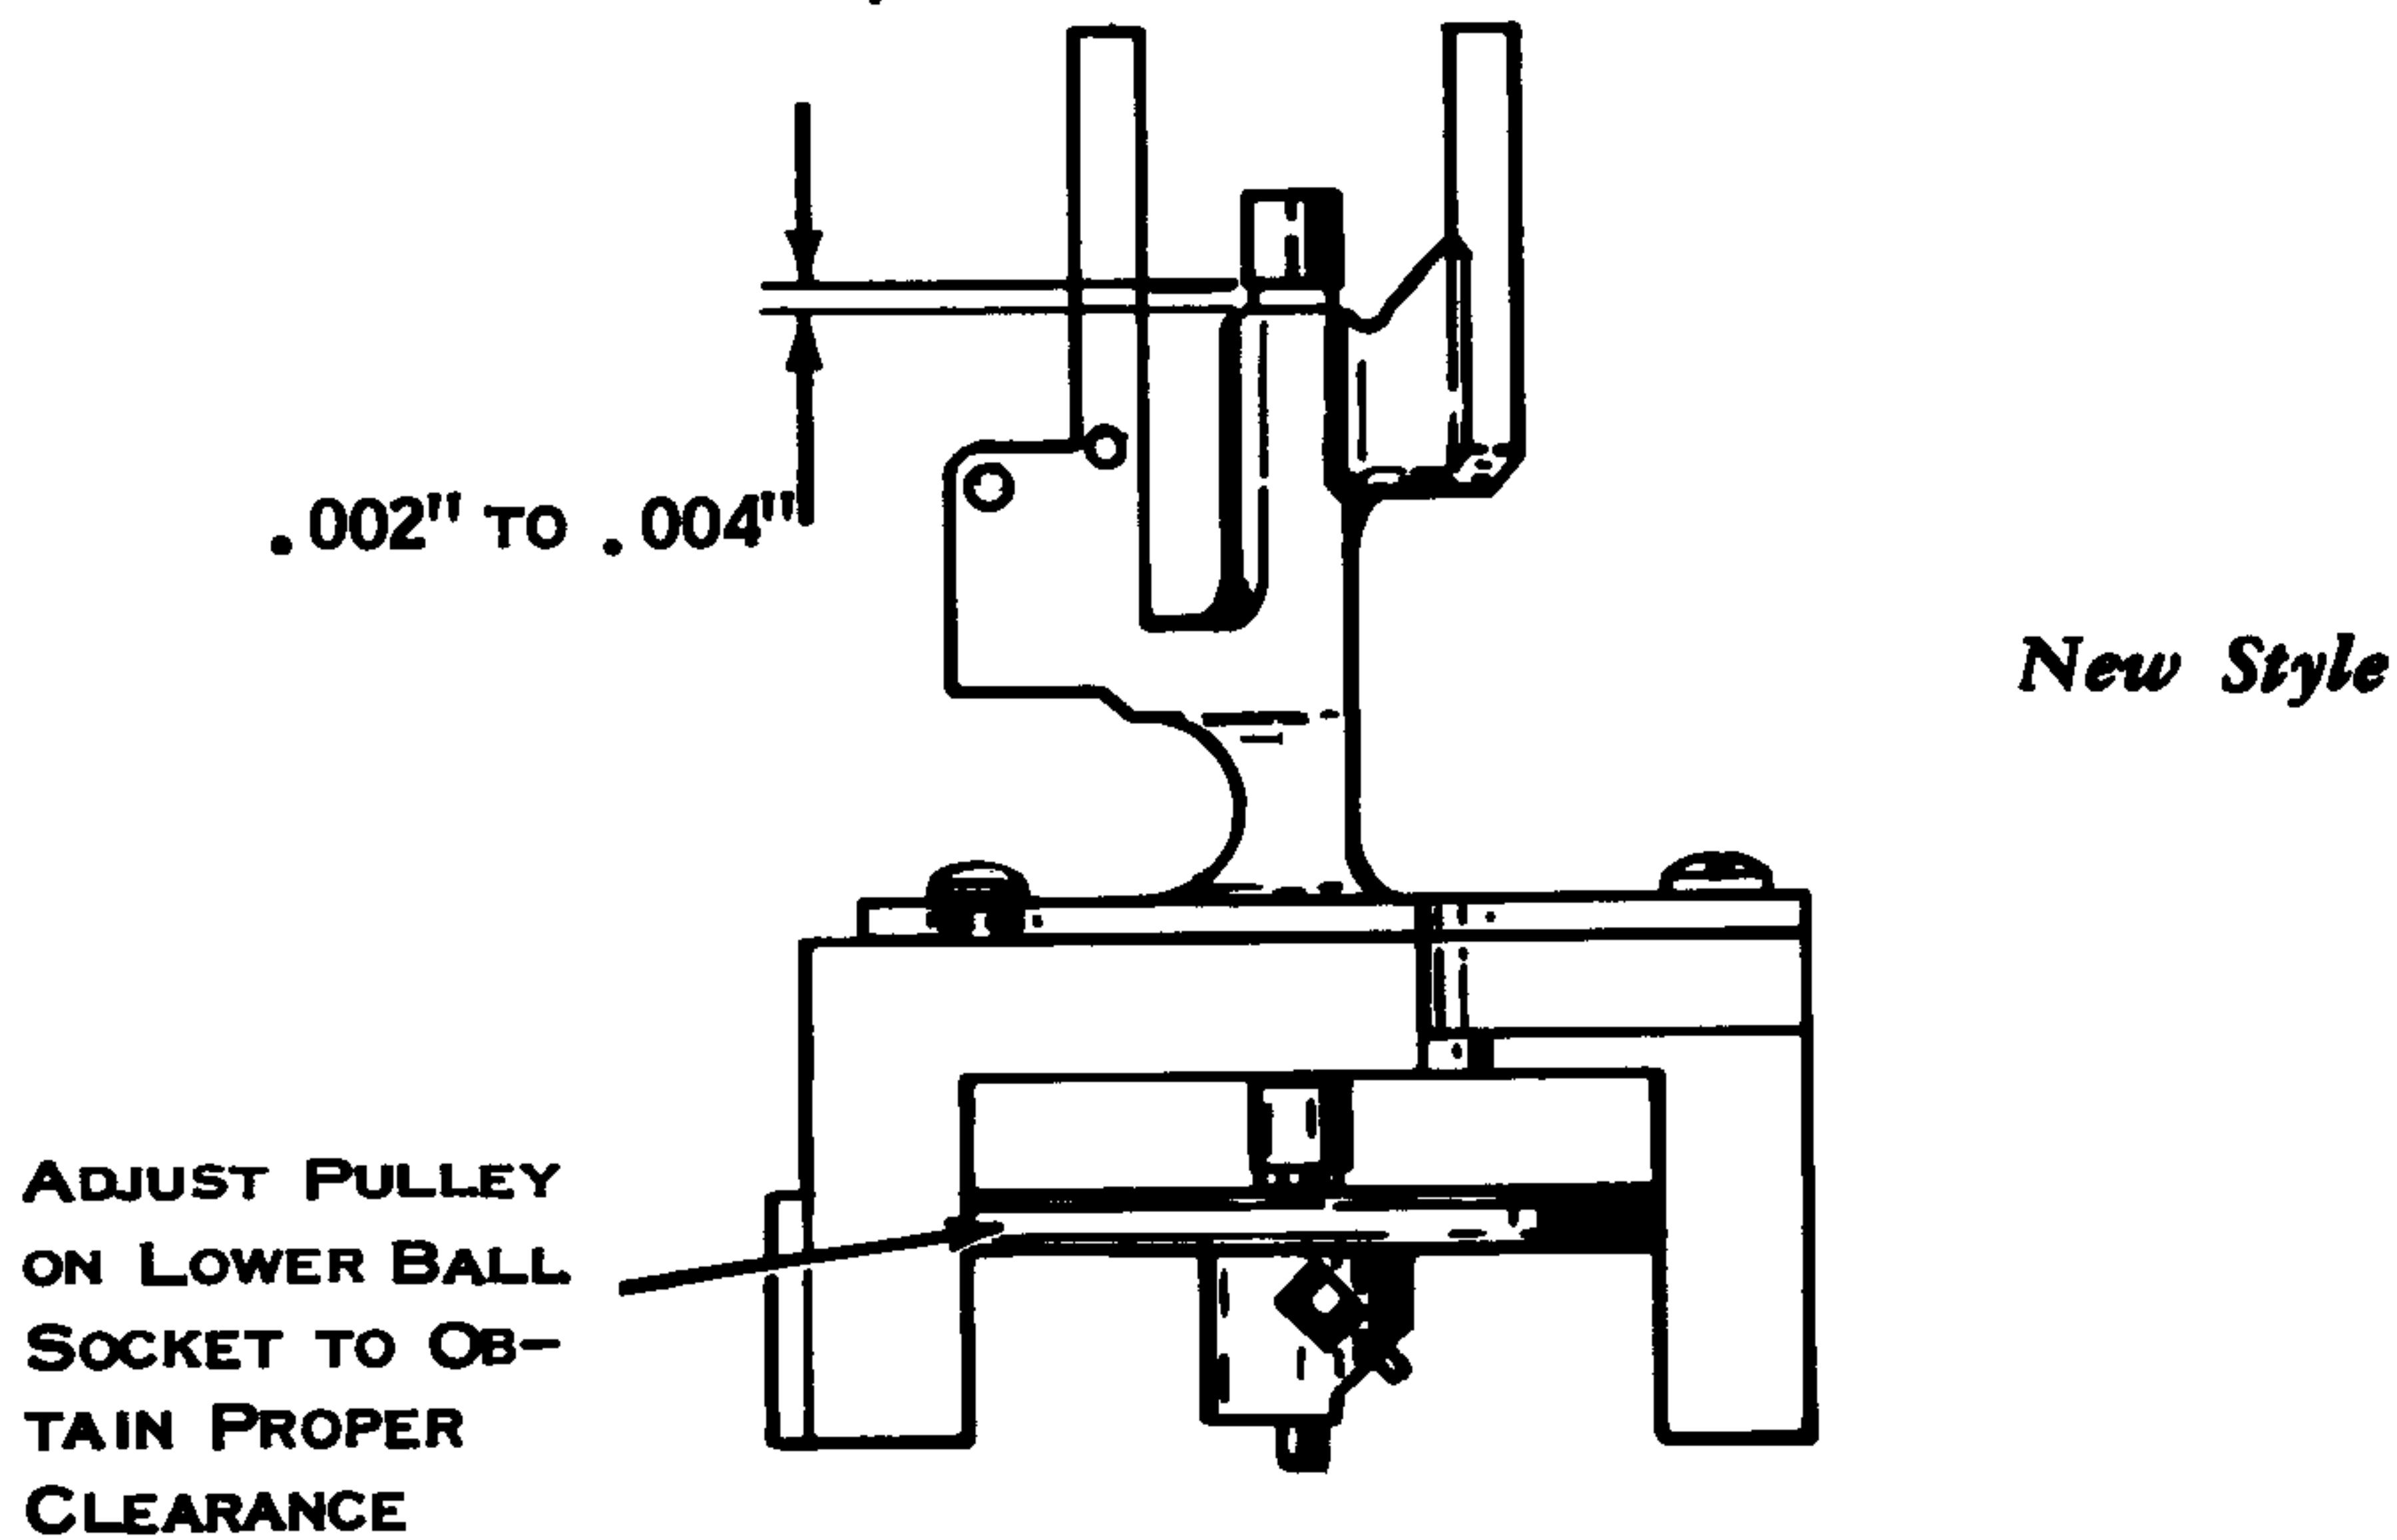

Figure 60. Rotate Shaft End Play
2. Rotate Shaft End Play (Fig. 60) - The rotate pulley must be adjusted up or down on the rotate shaft to obtain .002" to .004" end play. CAUTION - If the rotate shaft is removed for any reason, the shims must be replaced.